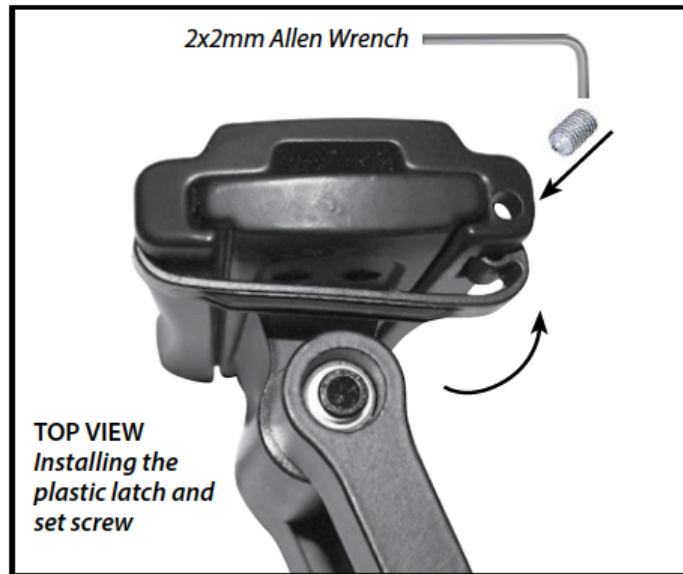

Fig. 7
- B. Install the Plastic Latch at the top of the Wall Plate/Display Plate mounts to secure the two pieces together. Insert the Hex Set Screw (J) into the top right of the Plastic Latch to secure the two together (Fig. 7). Use your 2x2mm Allen Wrench to secure the Set Screw.